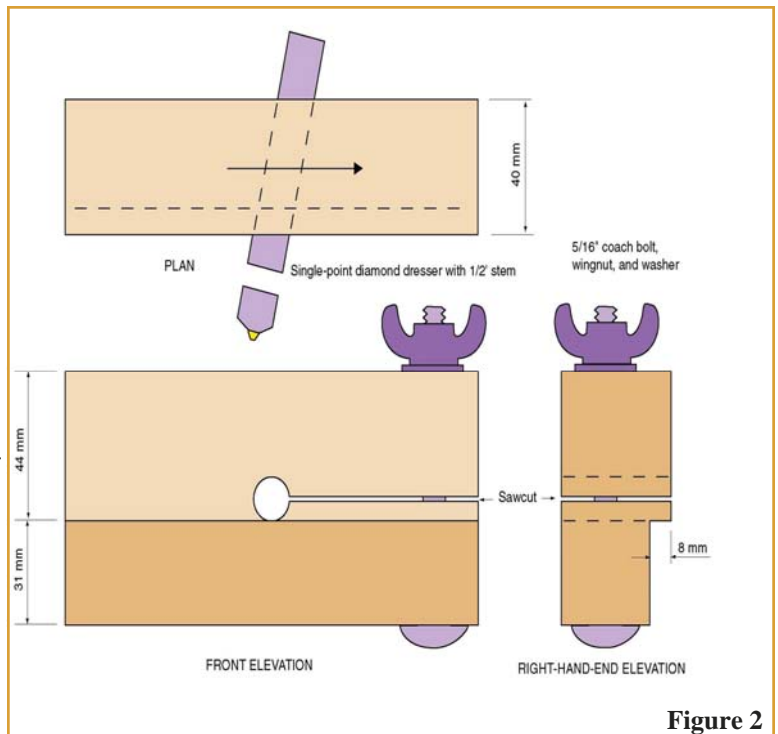

Figure 2
7. Occasionally axially rotate the dresser in the figure 2 jig to equalize wear on the diamond.
Figure 2 shows a wooden one you can easily make yourself for use with a tilting-platform grinding jig. Set the shaft in the jig so that the point projects about 1/4" over the front of the tilting platform.